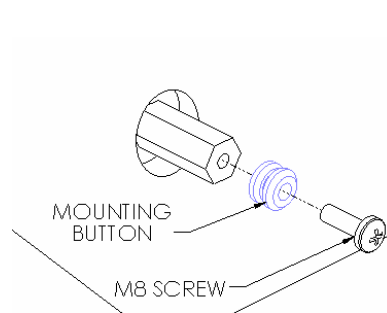
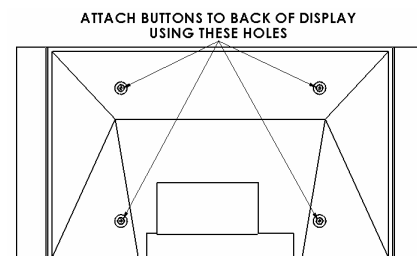

Figure 3
Figure 4
2. Attach mounting buttons to the display using the M8 cap screws provided (see Figure 3 & Figure 4).